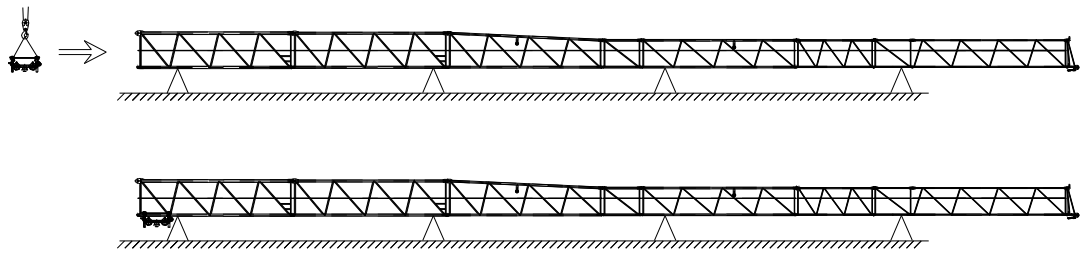

Fig. 4-30 Installing trolley
- 2) Trolley mechanism from the side before loading jib II , see Fig. 4-30.